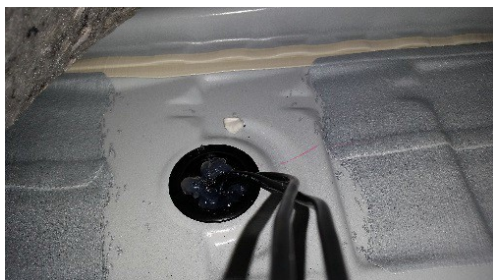

Figure 27
26. Seal harnesses to the drain plugs using VPC approved sealant. **Making sure to work the sealant completely around and in between both wires for a water tight seal.** Figure 27.